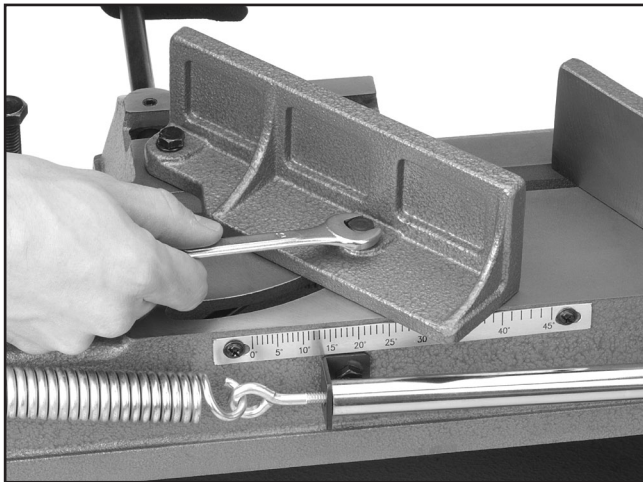

Figure 30. Setting vise angle.
1. Loosen the lock nut with a 12mm hex wrench or socket as shown in **Figure 30**.